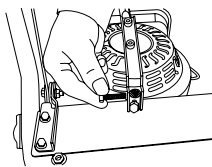
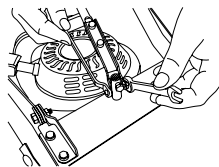
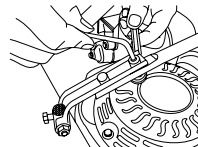

Figure1
Figure2
Figure3
- **Control level assembly:** remove the ball knob from the control lever first, insert the control lever into gearcase, then fasten the ball knob. Find the center pivot in the bottom of the housing, please insert bolt into spring leaf and shaft with 2 screws (see Figure1).Secure the screws with wrench(Figure 2). Please use sock wrench to tighten the setting screw which connecting control level with spring leaf. (Figure3). Then Please twist the setting screws blow the shaft tightly with a wrench (Figure4).